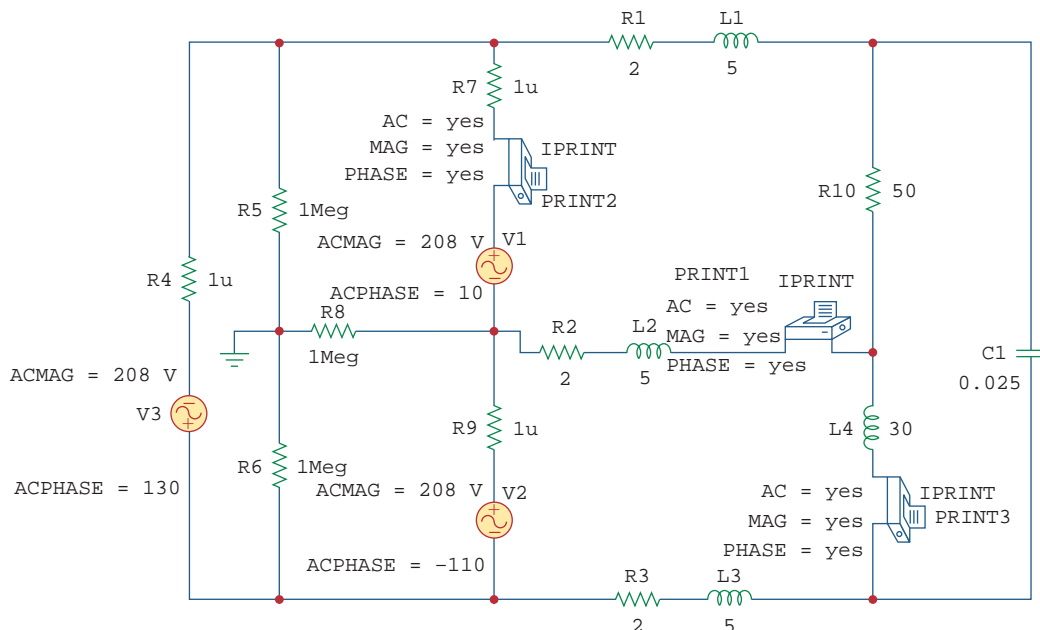

Figure 12.31
4. **Attempt.** As mentioned above, we avoid the loop of voltage sources by inserting a $1\text{-}\mu\Omega$ series resistor in the delta-connected source. To provide a ground node 0, we insert balanced wye-connected resistors ($1\text{ M}\Omega$ per phase) in the delta-connected source, as shown in the schematic in Fig. 12.31. Three IPRINT pseudocomponents with their